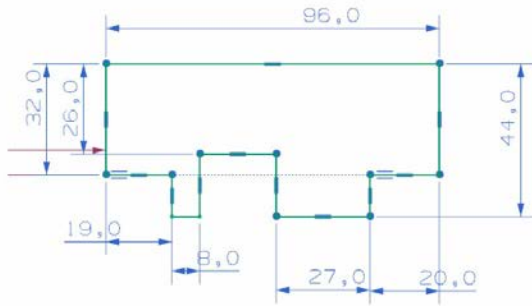

Figure 14-103 Sketch for the top face of the part
- Create the base feature by using the **Tab** tool, refer to Figures 14-103 and 14-104.
3. Draw the sketch for the base feature of the part, as shown in Figure 14-103.